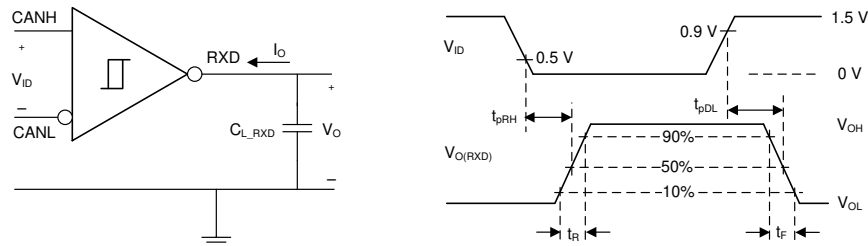

図 6-3. Receiver Test Circuit and Measurement
| $V_{OH}$                                      | HIGH level output voltage                                                     | See 図 6-3, $I_O = -2\text{mA}$                                                                                             | $0.8 \times V_{CC}$ |     |      | V             |
| $V_{OL}$                                      | LOW level output voltage                                                      | See 図 6-3, $I_O = 2\text{mA}$                                                                                              |                     | 0.2 | 0.4  | V             |
The CAN bus has two logical states during operation: recessive and dominant. See Figure 6-3 and Figure 6-4.
Transceivers with low power Standby Mode have a third bus state where the bus terminals are weakly biased to ground via the high resistance internal resistors of the receiver. See Figure 6-3 and Figure 6-4.
(1) Mirrors bus state: low if CAN bus is dominant, high if CAN bus is recessive.
(2) See Figure 6-3 for bus state.